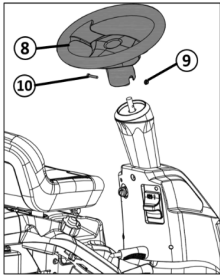
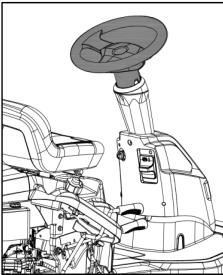

Figure 10
Figure 11
3. Install the steering wheel assembly to the designated position of the ride on mower according to the method shown in Figure 10, and the installation status is shown in Figure 11.